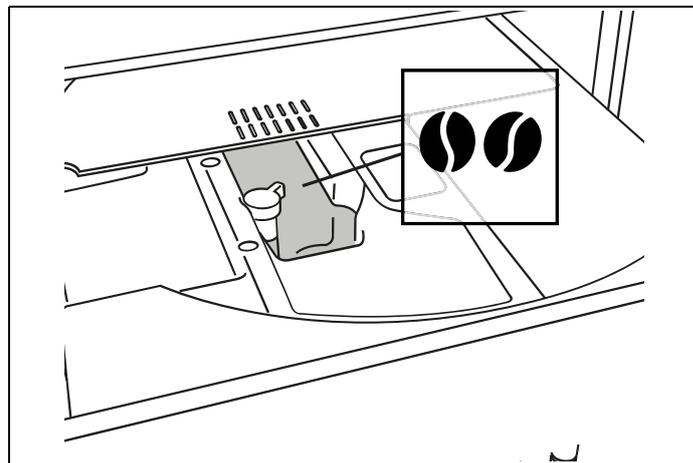

Fig. 24
1) Fill the beans container (A16) (Fig. 24) with coffee beans;